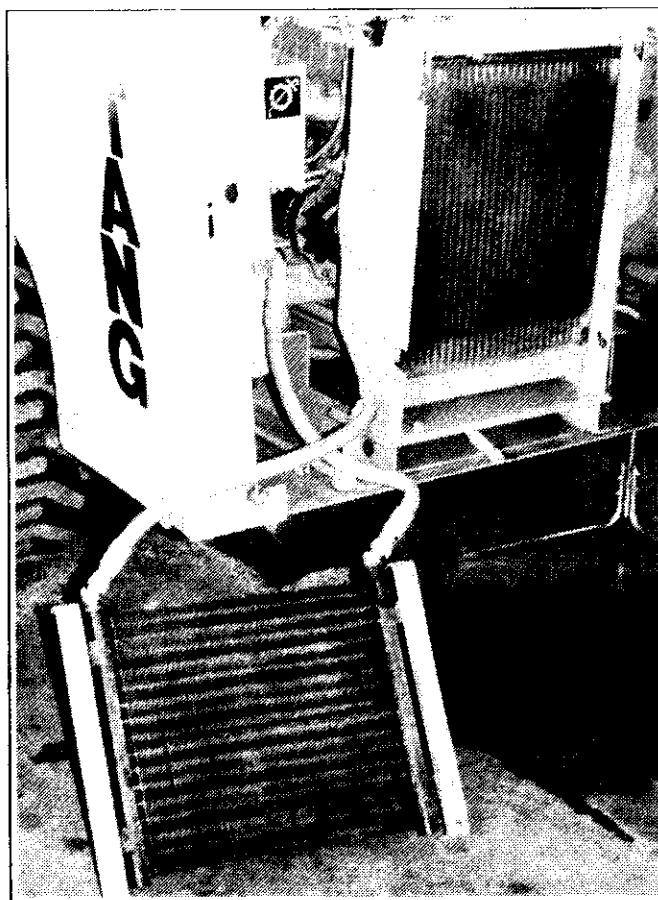

Figure 7-4
- a. Remove the four (4) 3/8 inch bolts securing the oil cooler mounting brackets to the radiator mounting frame.
- b. Lift the oil cooler out of the radiator mounting frame and set the cooler on the ground at the left rear of the machine. (See figure 7-4)